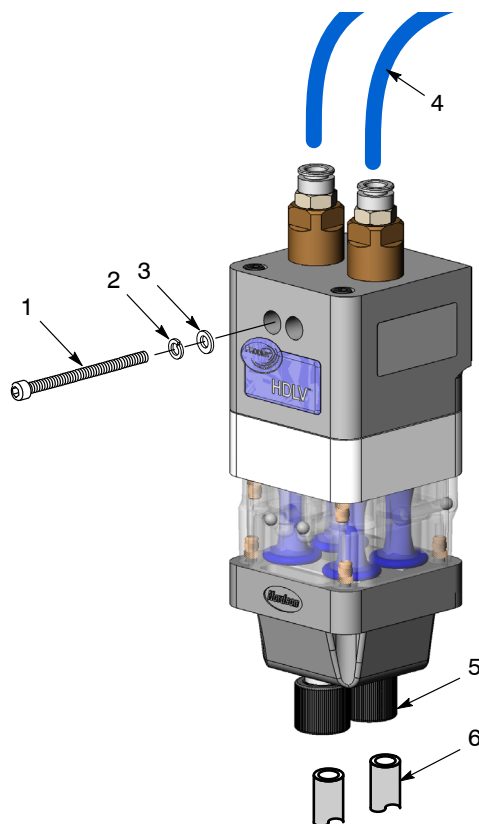

Figure 1 Removing Pump
1. See Figure 1. Disconnect the purge air lines (4) from the top of the pump.
2. Disconnect the inlet and outlet powder tubing (6) by removing the tube nuts (5) from the bottom of the pump.
3. Remove the two screws (1), lock washers (2), and flat washers (3) securing the pump to the pump panel and move the pump to a clean work surface.